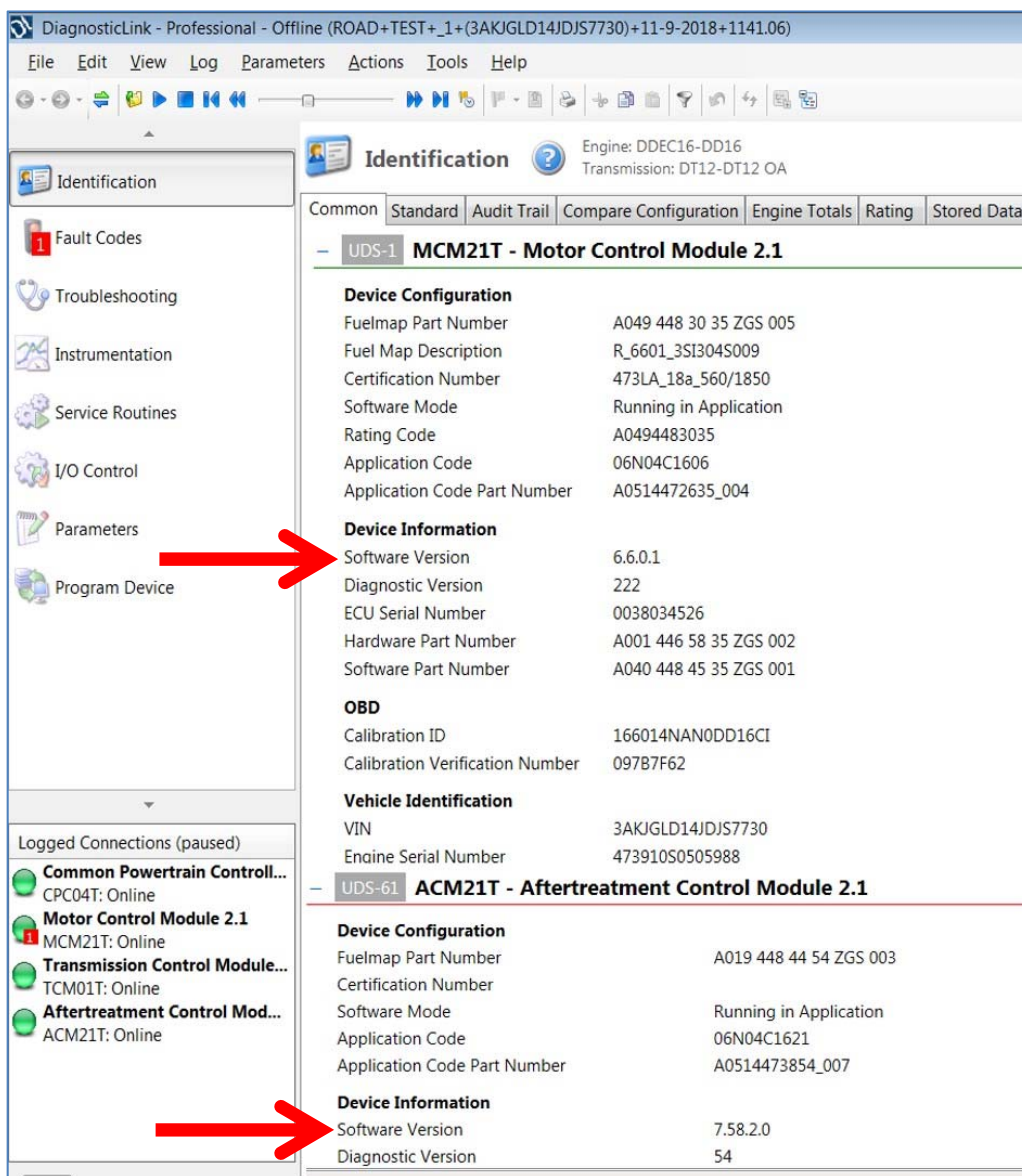

Figure 1 – DiagnosticLink® Identification Screen
5. On the Identification screen, check the current MCM, ACM, CPC, and if applicable the TCM, software. Listed below are the **MINIMUM** levels required. See Figure 1 for an example of the Identification screen.
6. Is the **software** level for all modules less than, equal to, or higher than the software levels listed in step 5? For example in Figure 1, MCM software 6.6.0.1 and ACM software 7.58.2.0 are both less than 6.7.0.2 and 7.59.2.0, and thus would require programming.